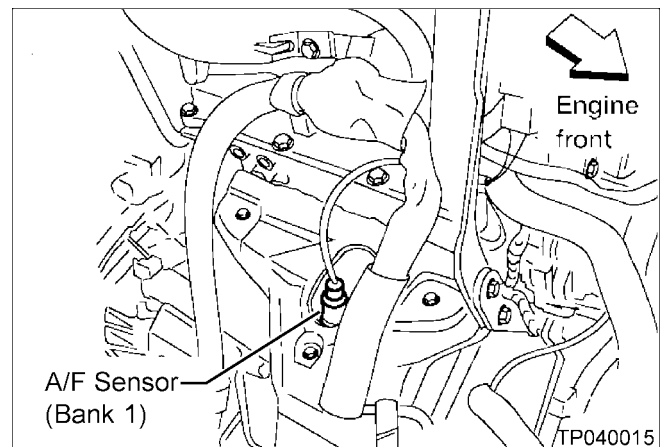

Figure 1
- It's located on the side of the engine that is towards the **rear** of the vehicle (see Figure 1).
2. Compare your vehicle's ECM P/N (step 1 Figure 1) to those shown under Current ECM P/N in **Chart A** below: